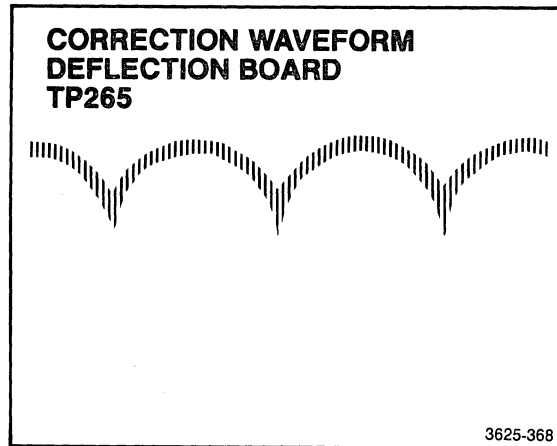

Figure 5-71. Color Display Monitor horizontal bowing correction waveform (horizontal 5 ms/div., vertical 1 V/div).
3. TP265 should exhibit a parabolic waveform of approximately 2.2 V amplitude and 16.6 ms period. See Figure 5-71. There should be no lumps and the waveform should be symmetrical. If there are problems, examine U116B and Q507 on the deflection board of the monitor.